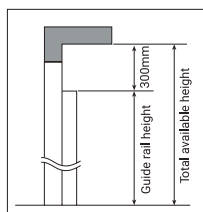

Figure 7
b. Where only limited headroom is available guide rail length equals total available height less 300mm (205mm for the 55 range) (see *Figure 7*).